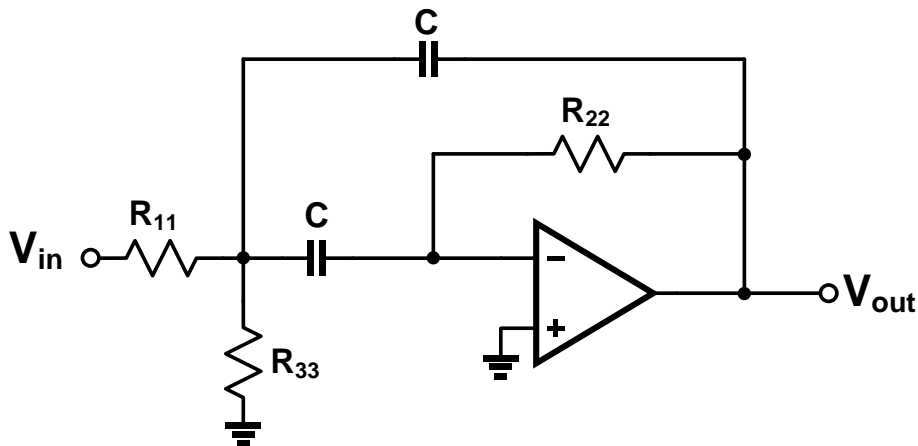

Figure 4-1 A second order bandpass filter
1. Derive the transfer function of bandpass filter shown in Figure 4-1 and prove that it is a second order bandpass filter having transfer function equivalent to: $H(s) = \frac{A_o \cdot \frac{\omega_o \cdot s}{Q_o}}{s^2 + \frac{\omega_o \cdot s}{Q_o} + \omega_o^2}$. Find the values of resistors and capacitors for Ao, Qo and fo provided in the Specifications.